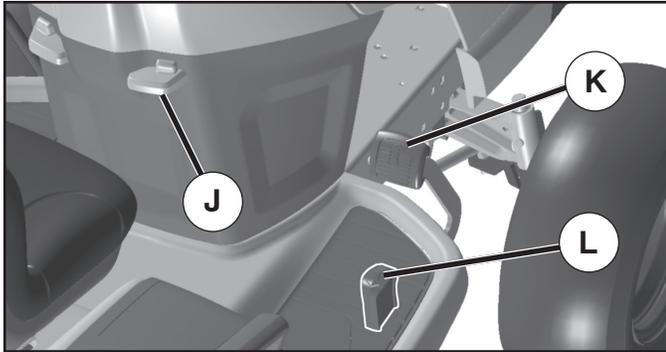

Fig. 19
(See Fig. 19)
- Slowly depress forward (K) or reverse (L) drive pedal to begin movement. Ground speed increases the further down the pedal is depressed.
TO USE CRUISE CONTROL (J) (See Fig. 19)